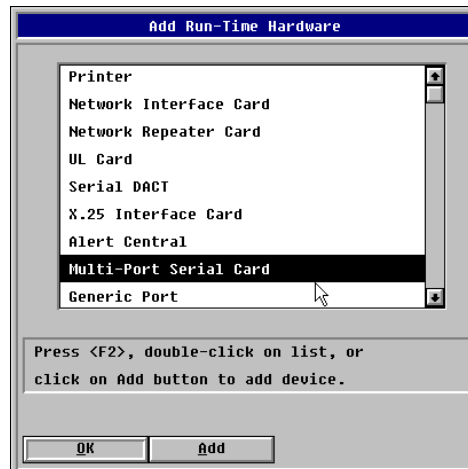

Figure 5-3 Add Run-Time Hardware Dialog
3. Check the current hardware settings. To change a specific hardware setting, highlight the setting with your mouse and double click or use the **Up** and **Down** arrow keys to highlight the setting you wish to change and press **F2**. The system displays the Add Run-Time Hardware dialog shown in Figure 5-3.